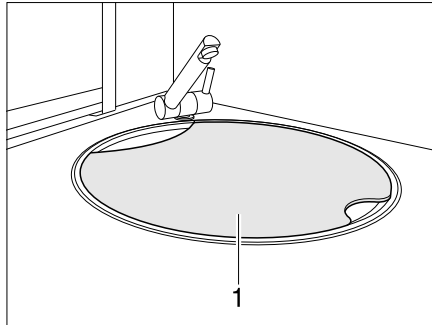

Fig. 11 Sink cover
- ▶ In case of an accident or emergency braking the sink cover (Fig. 11,1) can injure the vehicle passengers. Before the journey, take the sink cover off the sink and store it securely in the kitchen block or wardrobe.